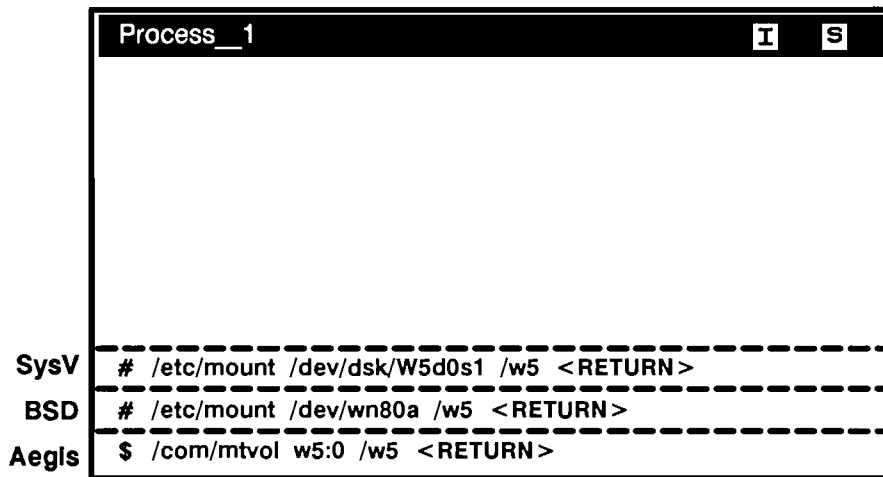

Figure 6–11. Mounting the Second Disk Volume
9. Figure 6–11 shows the command to mount the second disk volume. Note that you do not have to be logged in as **root** in the Aegis environment to perform this step.